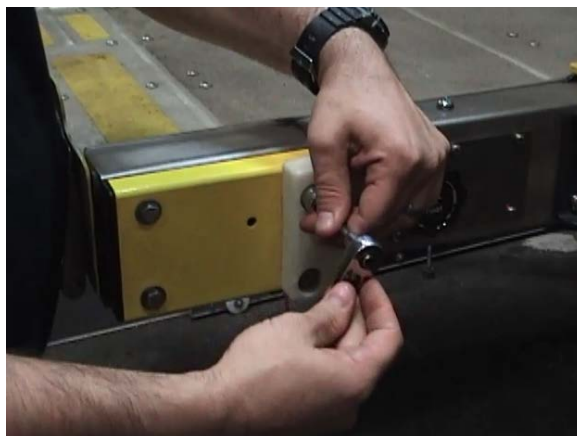

FIGURE 4-8: REMOVE RH GUIDE BLOCK AND RH PLATFORM ROLLSTOP SWITCH COVER
- 3) Refer to **Figure 4-8**. Gain access to the Right-Hand (RH) Rollstop Cover and Manual Release Cover Plate attached with (four screws) by first removing the white Guide Block and Platform Rollstop Switch Cover.